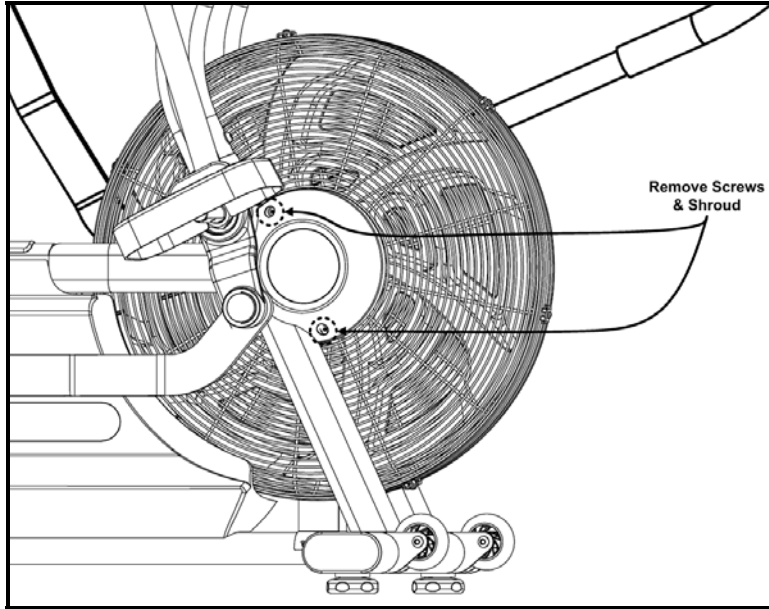

Fig. 10
12. Take off the left & right shrouds covering the center point of the fans axle by removing the two securing screws (Fig. 10) using a 4mm hex key.